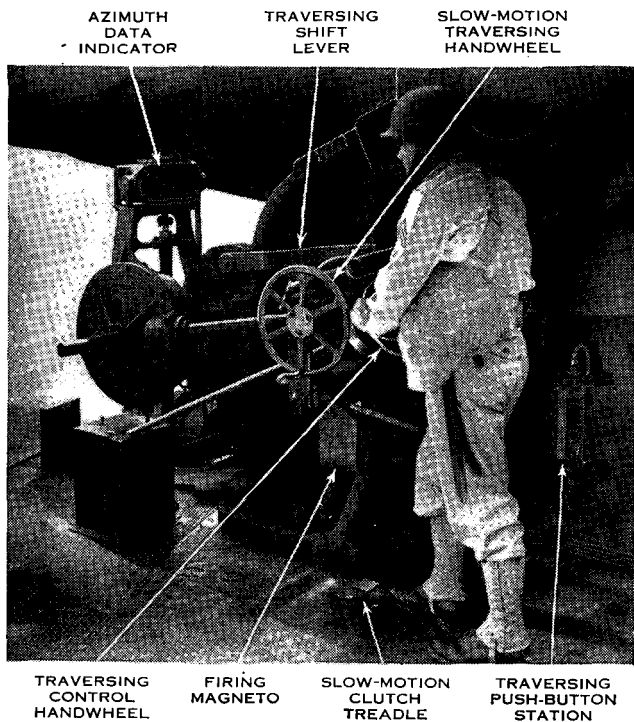

Figure 13. Traversing the gun.
11. GUN POINTER. The gun pointer is charged with the duty of pointing the piece in direction. He is responsible to the gun commander for the proper operation, care, and adjustment of the azimuth data indicator, traversing mechanism (fig. 13), and the telescope and telescope mount. For detailed duties of the gun pointer, see the drill table, appendix III.
24. TRAVERSING MECHANISM. a. *To traverse the gun by power* (fig. 13), the gun pointer first sets the traversing shift lever to the **POWER** position, sees that the traversing control detent is at neutral (the zero mark on the indicator dial coincides with the index line on the gear case), and then starts the traversing motor. The gun may be traversed in either direction at a constant rate